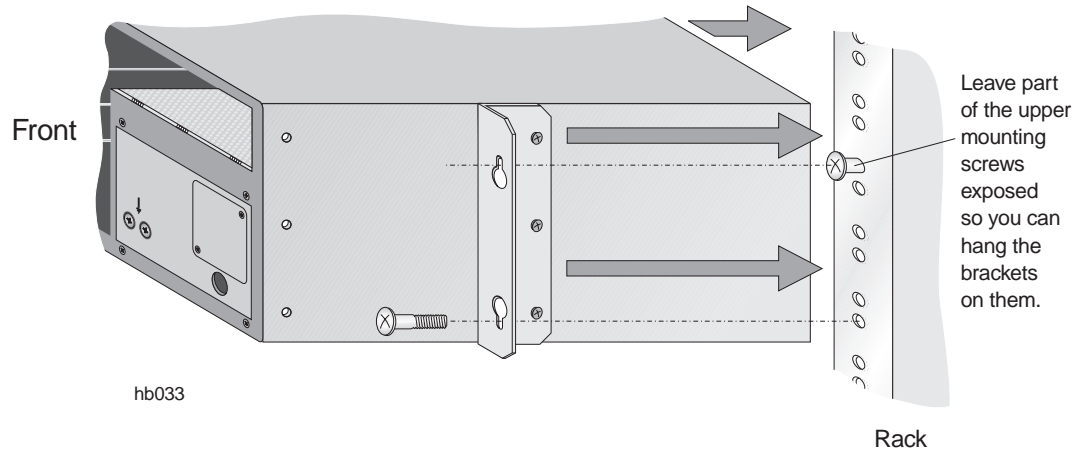

Figure 6-7 Installing the IDU chassis in a rack
2. Screw the two upper mounting screws into the rack (one on each side), at the desired installation height. Refer to figure 6-7.